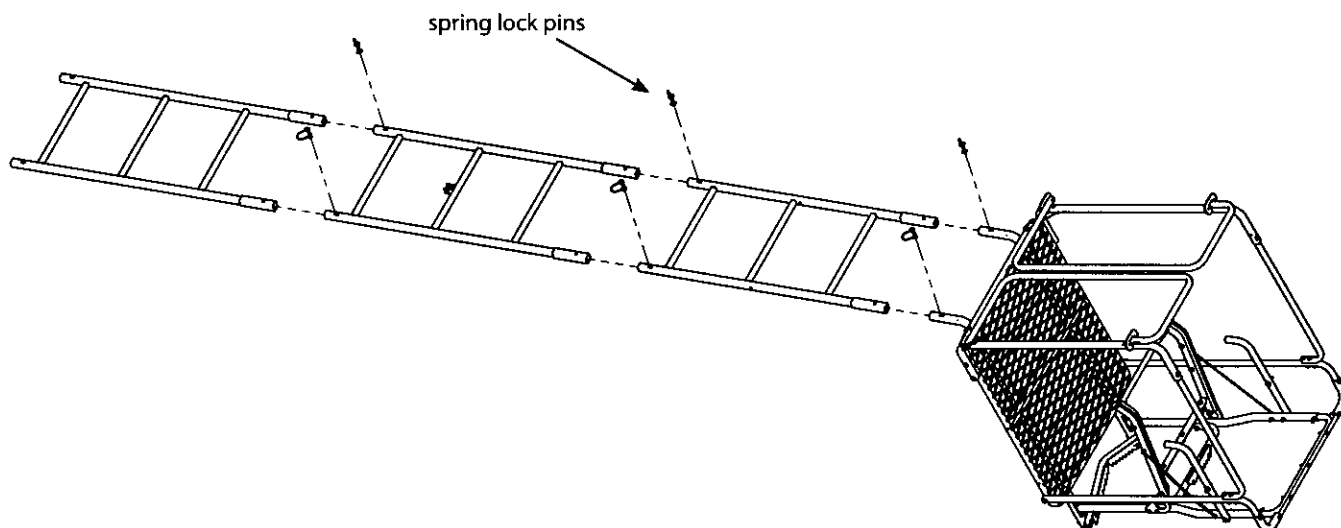

Figure 12
20. With all sections assembled together on ground, secure all sections together using (6) provided spring lock pins. Handle of spring lock pin must be put to the outside of ladder side rails. **SEE FIGURE 12.**